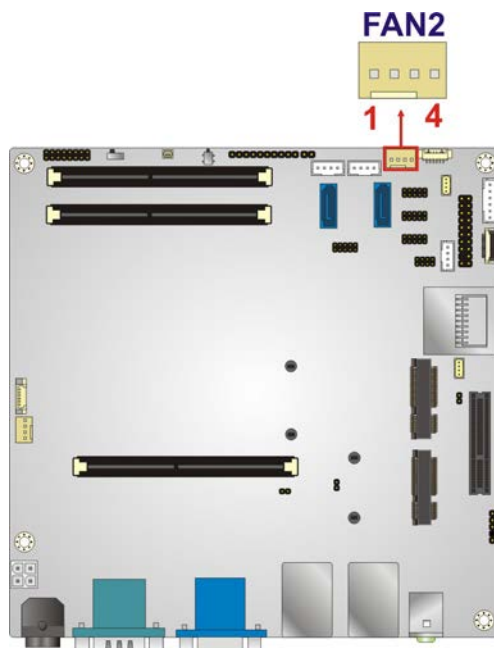

Figure 3-26: System Fan Connector Locations
- CN Location:** See **Figure 3-26**